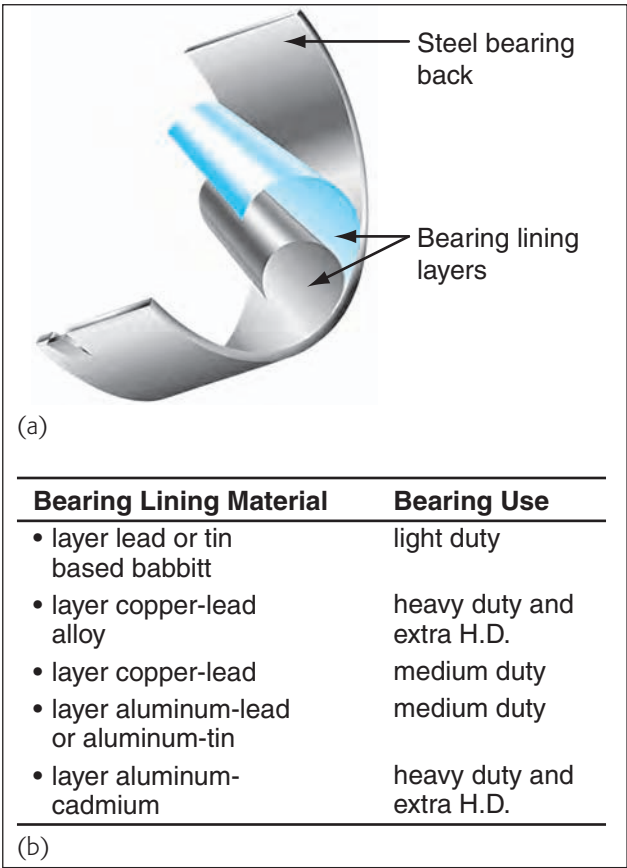

FIGURE 12.46 Bearing lining materials. (a) Multilayered steel-backed bearings. (b) Chart of lining materials.
- Multilayered bearings have steel backs with one or more layers of lining material (Figure 12.46).
Figure 12.46 shows the various part number codes of bearings from one manufacturer.
In 1839, Isaac Babbitt was granted a patent for a white metal alloy, useful as a bearing material, and the Babbitt name has become synonymous with bearing metals of this type. Early engine bearings were not inserts like bearings of today. The bearing material was poured in place on the main bearing and rod bearing surfaces using special jigs. Then the bores were machined to their finished size. Poured *babbitt* connecting rods had bearing surfaces on the sides, called cheeks, and some had an oil dipper (see Figure 12.46). Until the early 1950s, some engines still used poured babbitt bearing surfaces. A common procedure in later years was to retrofit these engines to accept a new bearing insert. The insides of the connecting rods were bored or ground and new slots for the bearing insert locating lugs were milled.